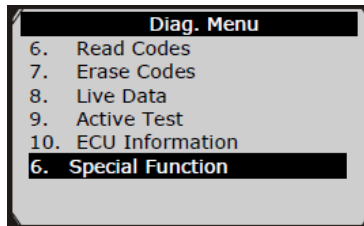

Figure 8.20
- 1) In the **Diagnostic Menu** (*Figure 8.20*), use the **UP/DOWN** button to select **Special Function** to do the ABS test. The scan tool displays as below.
- 1) In the **Diagnostic Menu** (Figure 8.20), use the **UP/DOWN** button to select **Active Test** to do the actuator test. The scan tool displays as below.